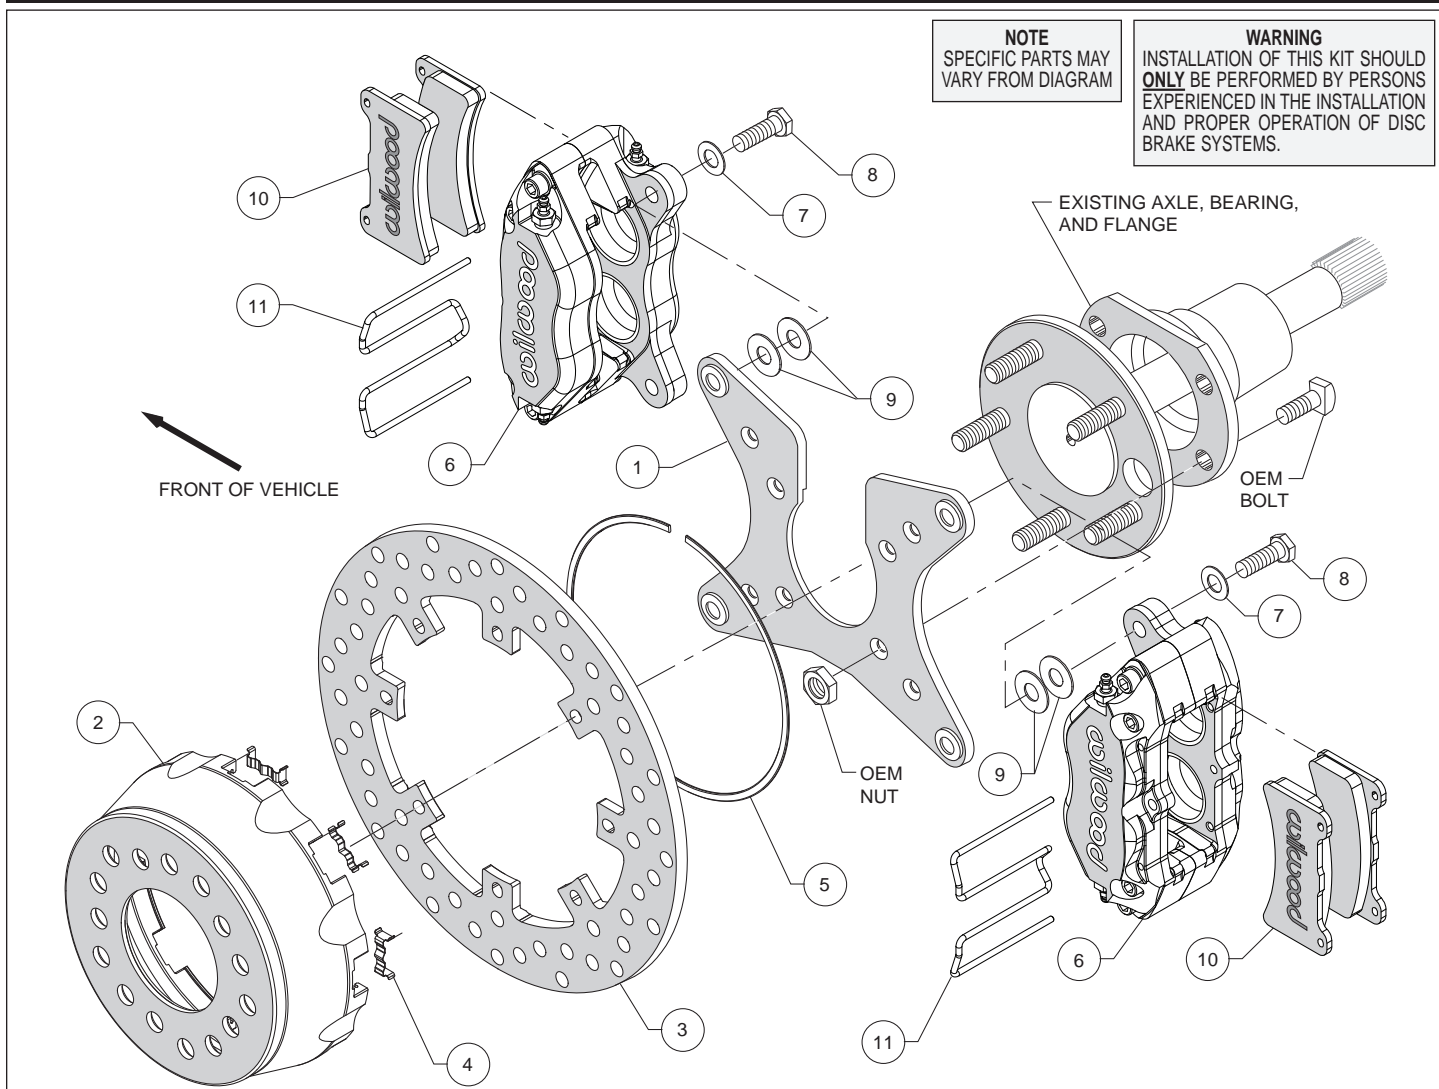

Figure 1. Typical Installation Configuration
**Assembly Instructions** (numbers in parenthesis refer to the parts list and Figure 1 on the preceding pages): **CAUTION:** All mounting bolts must fully engage clinch nuts. Be sure to check that all bolts are either flush or protruding through flanged side of clinch nut after shimming, Figure 5.
- Install the caliper mounting bracket (1), with the slot for the axle pointing upward, to the housing flange using the OEM bolts and nuts, as shown in Figure 1 and Photo 1. Ensure that the caliper mounting ears on the bracket are oriented fore and aft on the car, with the heads of the clinch nuts facing outboard, Photo 1. Apply red *Loctite*® 271 to the OEM bolt threads and torque to OEM specifications.
- Insert the dynamic mount wear plates (4) into the slots in the hat (2) making sure the tabs snap in place, Photo 2. Orient the rotor (3) as shown in Figure 1 and Photo 3, with the flush mount tab side facing the hat. Attach the rotor to the hat using snap ring (5) by pushing down on the rotor and installing the ring into the groove in the hat, as shown in Photo 4. Ensure that the ring is fully engaged in the groove.
- Align the correct hole pattern in the hat (2) with the axle stud pattern and slide the hat/rotor assembly onto the axle hub. **NOTE:** The hat must fit flush against the axle flange or excessive rotor run out may result. Install three lug nuts (finger tight) to keep the hat/rotor in place while continuing with the installation. **NOTE:** Some OEM and aftermarket axles come with stud sizes larger than 0.50" diameter. Verify stud size, and if necessary, have a qualified machine shop drill the hats to the correct size.
- **NOTE:** Please reference the caution statement at the beginning of the assembly instructions. Mount one caliper (6) onto the mounting bracket (1) using bolts (8) and washers (7), as shown in Figure 1. Initially place two .035" thick shims (9) on each bolt between the caliper and the bracket, Photo 5. Temporarily tighten the mounting bolts and view the rotor (3) through the top opening of caliper. The rotor should be centered in the caliper, Photo 6. If not, adjust the caliper by adding or subtracting shims between the bracket and the caliper. Always use the same amount of shims on each of the two mounting bolts. **NOTE:** The end of each bolt must be flush with or slightly protruding from the head of the clinch nut. If necessary, place spare shims between washer and caliper mounting ear to achieve the proper clinch nut engagement, as shown in Figure 5. Once the caliper alignment